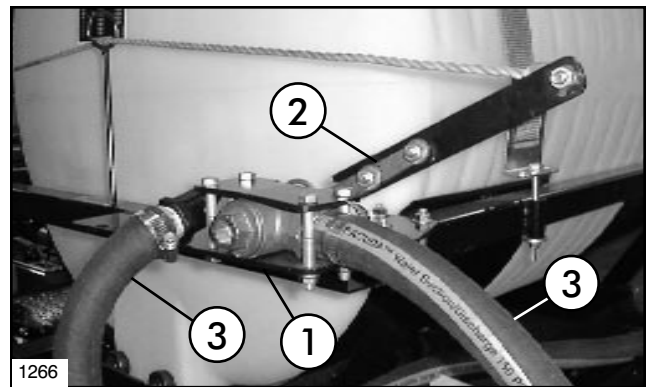

FIG. 9
10. Apply thread sealer and install a 3/4" x 90° Elbow and 3/4" x 1" hose barb in port in Ratchet Valve opposite the Valve Handle resting position. See FIG 9.
11. Apply thread sealer and install a 3/4" x 1" hose barb into both ports in the Ratchet Valve. See FIG 9.
12. Attach Valve Plate Top to Valve Plate over Ratchet Valve as, shown in FIG. 9, using (4) 5/16" x 2-1/2" cap screws and flange nuts.